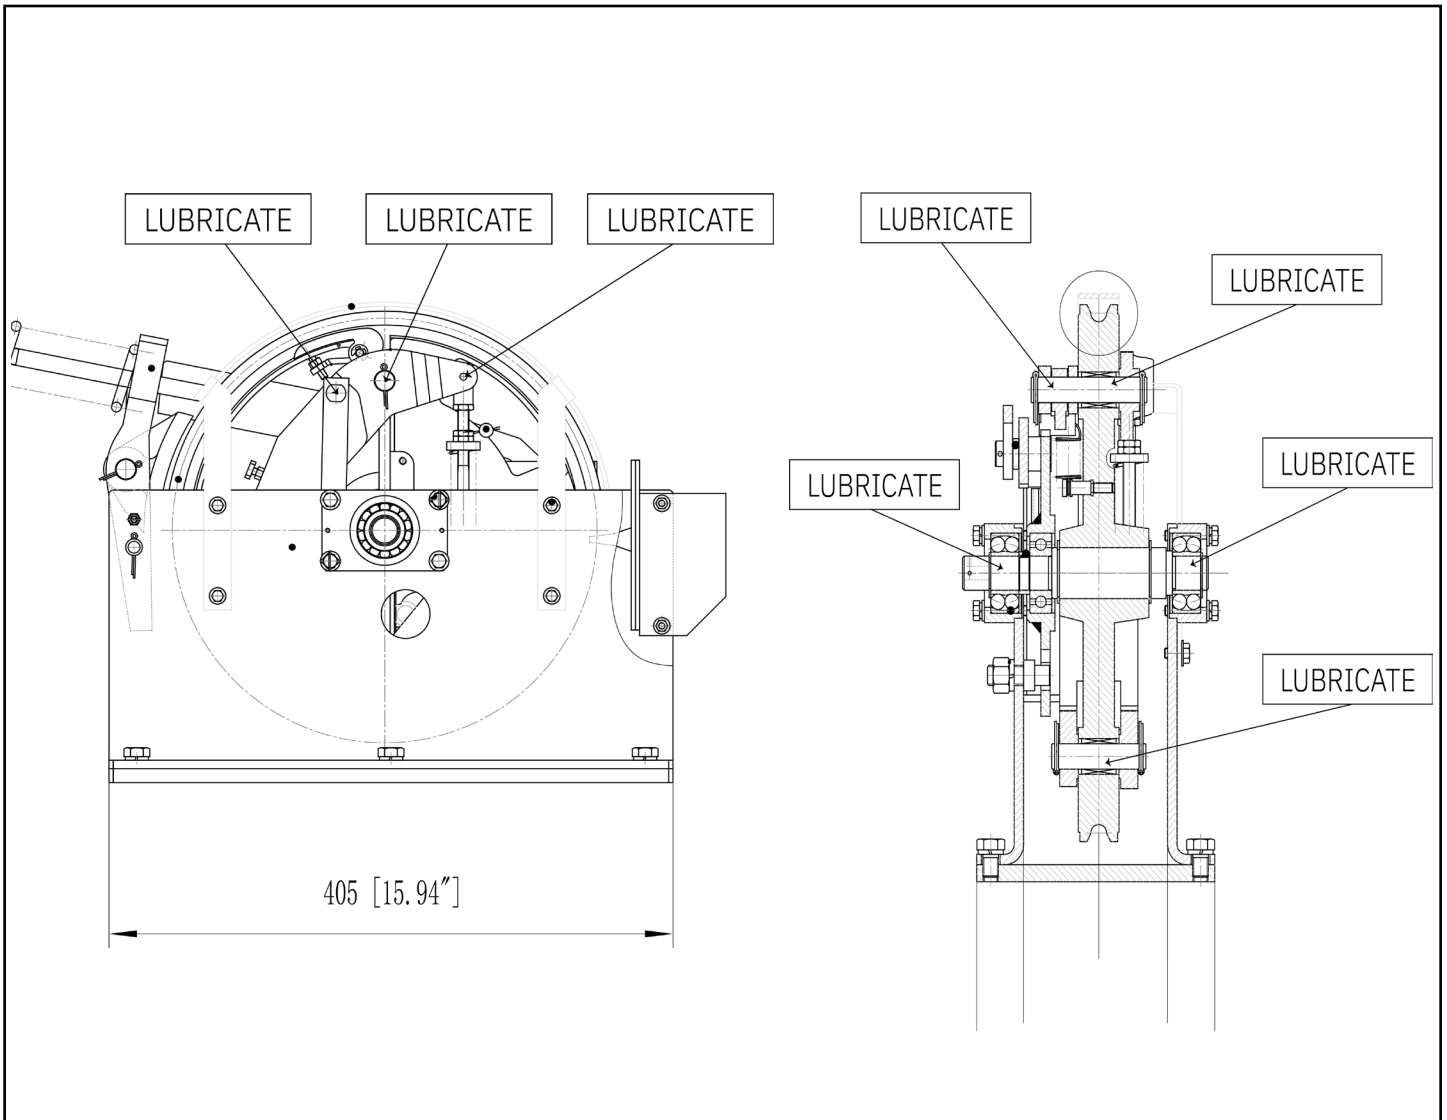

Figure 1
- Using a N46 type Hydraulic Oil lubricate every 15 day all the pin shafts , bushings, bearings at the points shown in Figure 1.